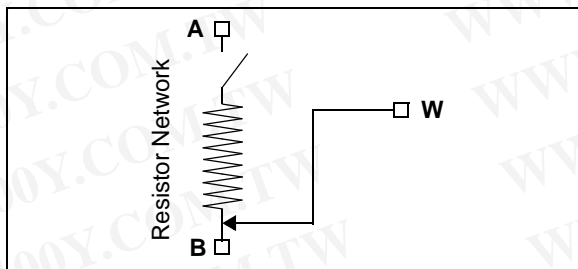

FIGURE 5-2: Resistor Network Shutdown Configuration.
- The PxW terminal is simultaneously connected to the PxB terminal (see **Figure 5-2**)